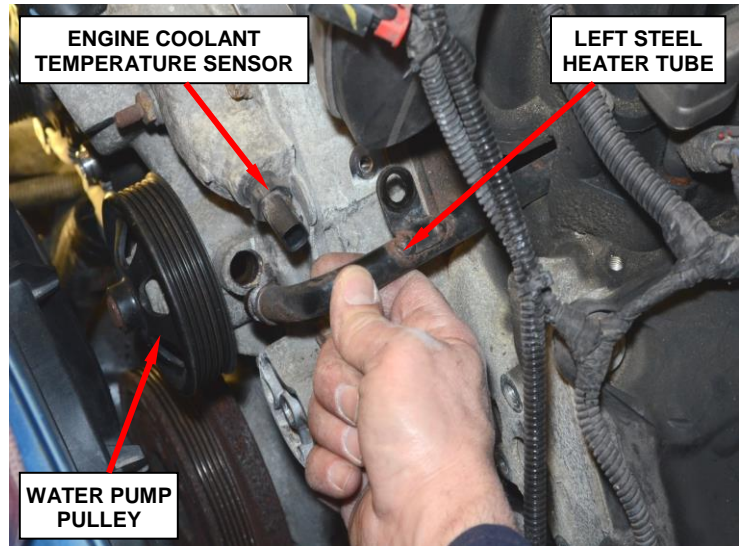

Figure 3 – Left Steel Heater Tube
15. Remove the left steel heater tube retaining bolt at the timing chain cover (Figure 3).
16. Pull the left steel heater tube out of the timing cover, twist the steel tube counterclockwise, and push the tube back out of the way (Figure 3).